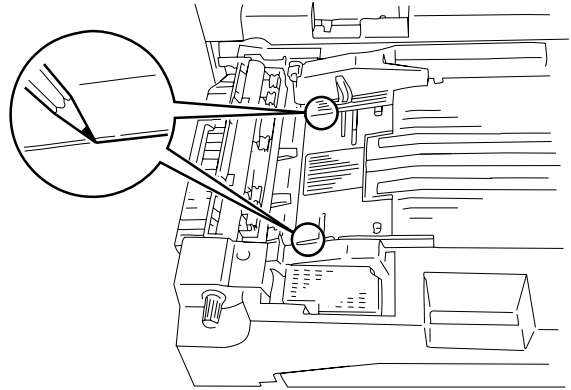

Figure 5-901
- 2) With the paper jogging guide plate fully open, mark the position of the paper jogging guide plate assembly with a pencil or the like. (See Figure 5-901.)
- 3) Remove the three mounting screws ①, disconnect the connector ②, and remove the E-ring ③; then, remove the rear guide plate assembly ④.